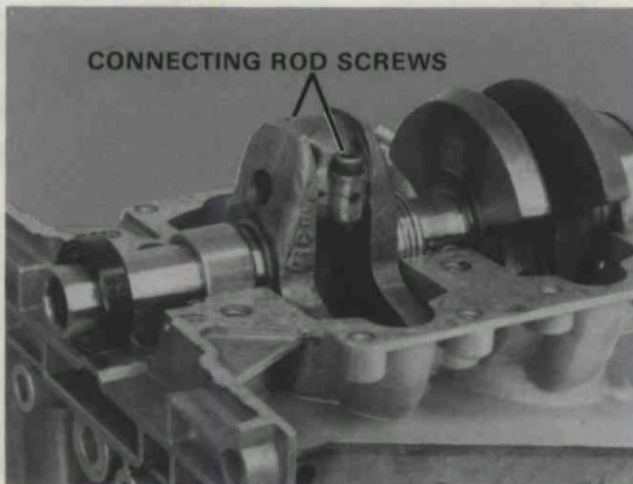

Figure 20. Removing Connecting Rod Screws.
15. Remove connecting rod screws. Special Tool No. T 8929. Figure 20.